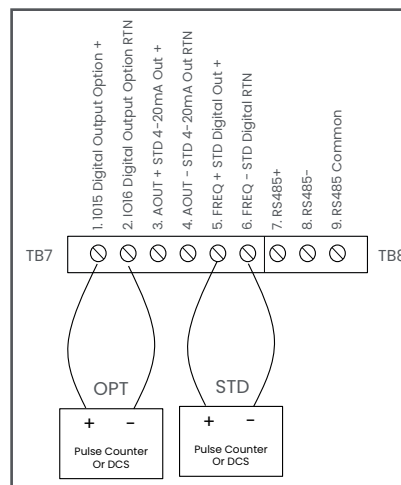
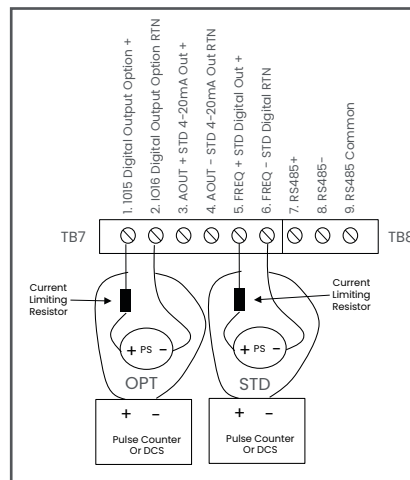

Figure 25: Wiring the Digital Outputs Active (Push Pull)
Figure 26: Wiring Digital Outputs Passive (Open Drain)
3. Feed one end of the cable through the conduit hole and wire it to the terminal block TB7 as shown in Figure 25 or Figure 26. Secure the cable gland.